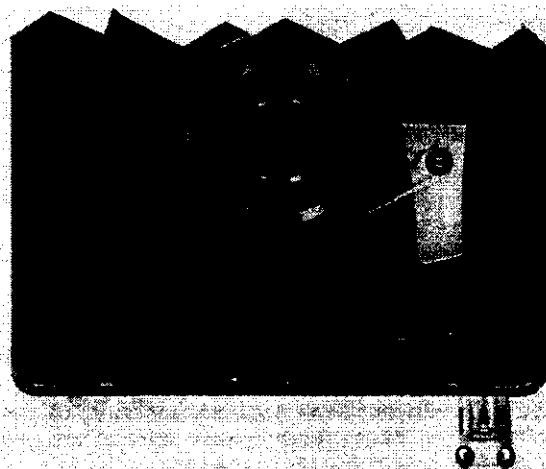

Figure 7. CAM WITH RETAINER SPRING
i. The cam retainer spring, selected to suit the diameter of the lens, is snapped around the lens flange so that the cam can be stored on the rear of the lens-board (figure 7).